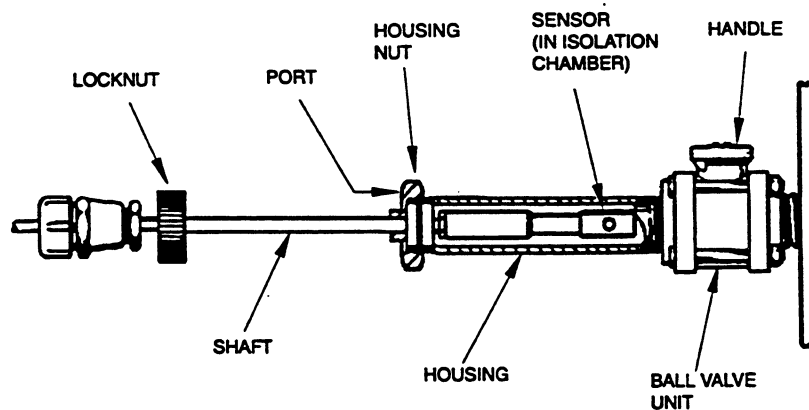

Figure 8. Ball Valve Shaft Removal
WARNING: Do not loosen the housing nut (see Figure 8) when the ball valve unit is open and the process line or tank is filled and pressurized. Severe injury to personnel may result.
2. Allow the sensor to enter into the ball valve unit isolation chamber (see Figure 8).
3. Turn the handle on top of the ball valve unit (see Figure 8) to the close position (indicated by an arrow on top of the handle).